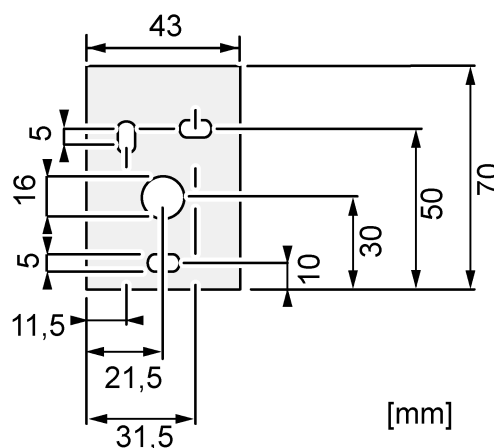

Figure 5: Template of drillholes and cable penetration
- Fasten the mounting bracket arm to the wall through the punched out bore-holes (see figure 5) using suitable screws.